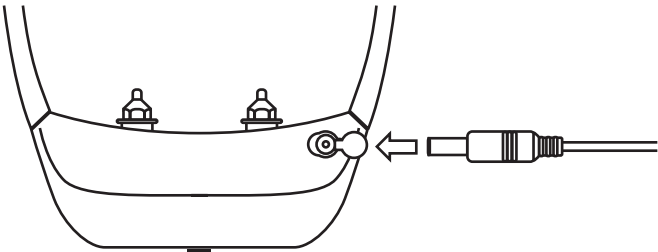

figure 1 – Receiver Collar Charging Interface
2. Connect one of the AC Charging Adapter connectors (either connector will work) into the Receiver Collar Charging Interface (*figure 1*) for 6 to 8 hours (on the first use of the product, charge the Receiver Collar for 12 to 14 hours).